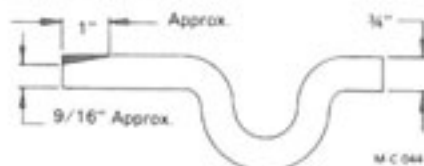

Figure 24
3. The new $\frac{3}{4}$ " diameter knife hanger pins can be used as a replacement for the $\frac{5}{8}$ " diameter knife hanger pins by grinding a small taper on the long end, see Figure 24.